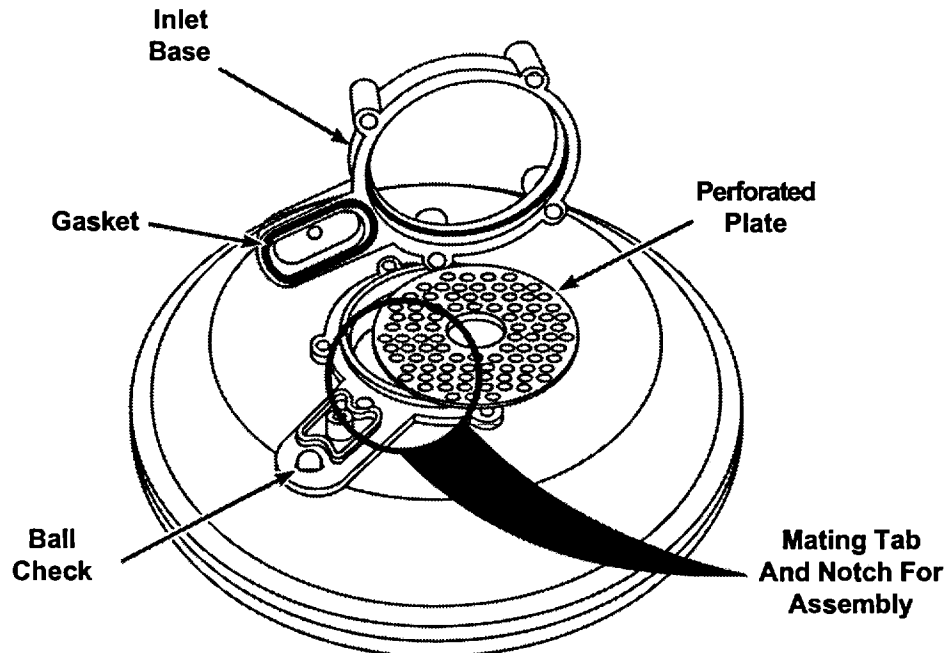

Fig. 7
6. Remove the Torx screw securing the inlet base to the bottom of the separator. Remove and discard the inlet gasket. Do not lose the ball check. If the perforated plate is damaged, it must be replaced. (Fig. 7)